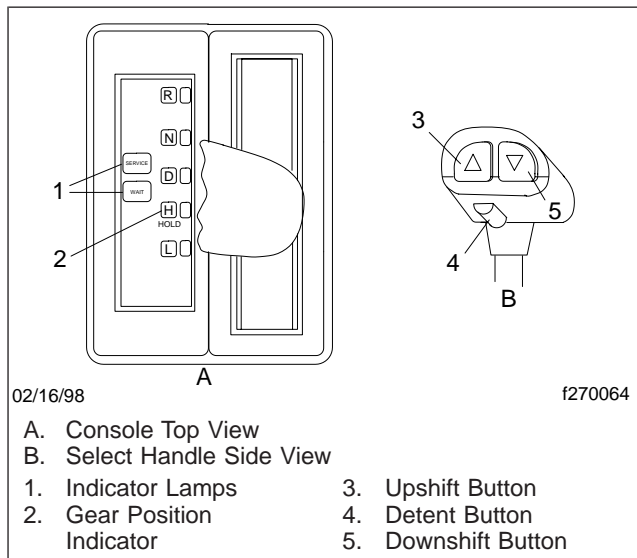

Fig. 8.14, Enhanced Driver Command Console (DCC)
- The Enhanced DCC (**Fig. 8.14**) has indicators for the three forward positions: Drive, Hold, and Low, plus Reverse and Neutral positions. Service and wait lamps are also located on the
2. On 10-speed models, select either LO or HI reverse by depressing either the downshift or upshift button (**Fig. 8.14**) on the gear select handle (if equipped).
NOTE: On vehicles equipped with upshift and downshift buttons (Fig. 8.14) on the gear select handle (enhanced DCC), you may select the starting gear. The gear you select is only active while the vehicle is running. The transmission resets to the default starting gear after you have shut off the engine. Depending on the vehicle's load, you may select gears 1 through 5 as the starting gear.